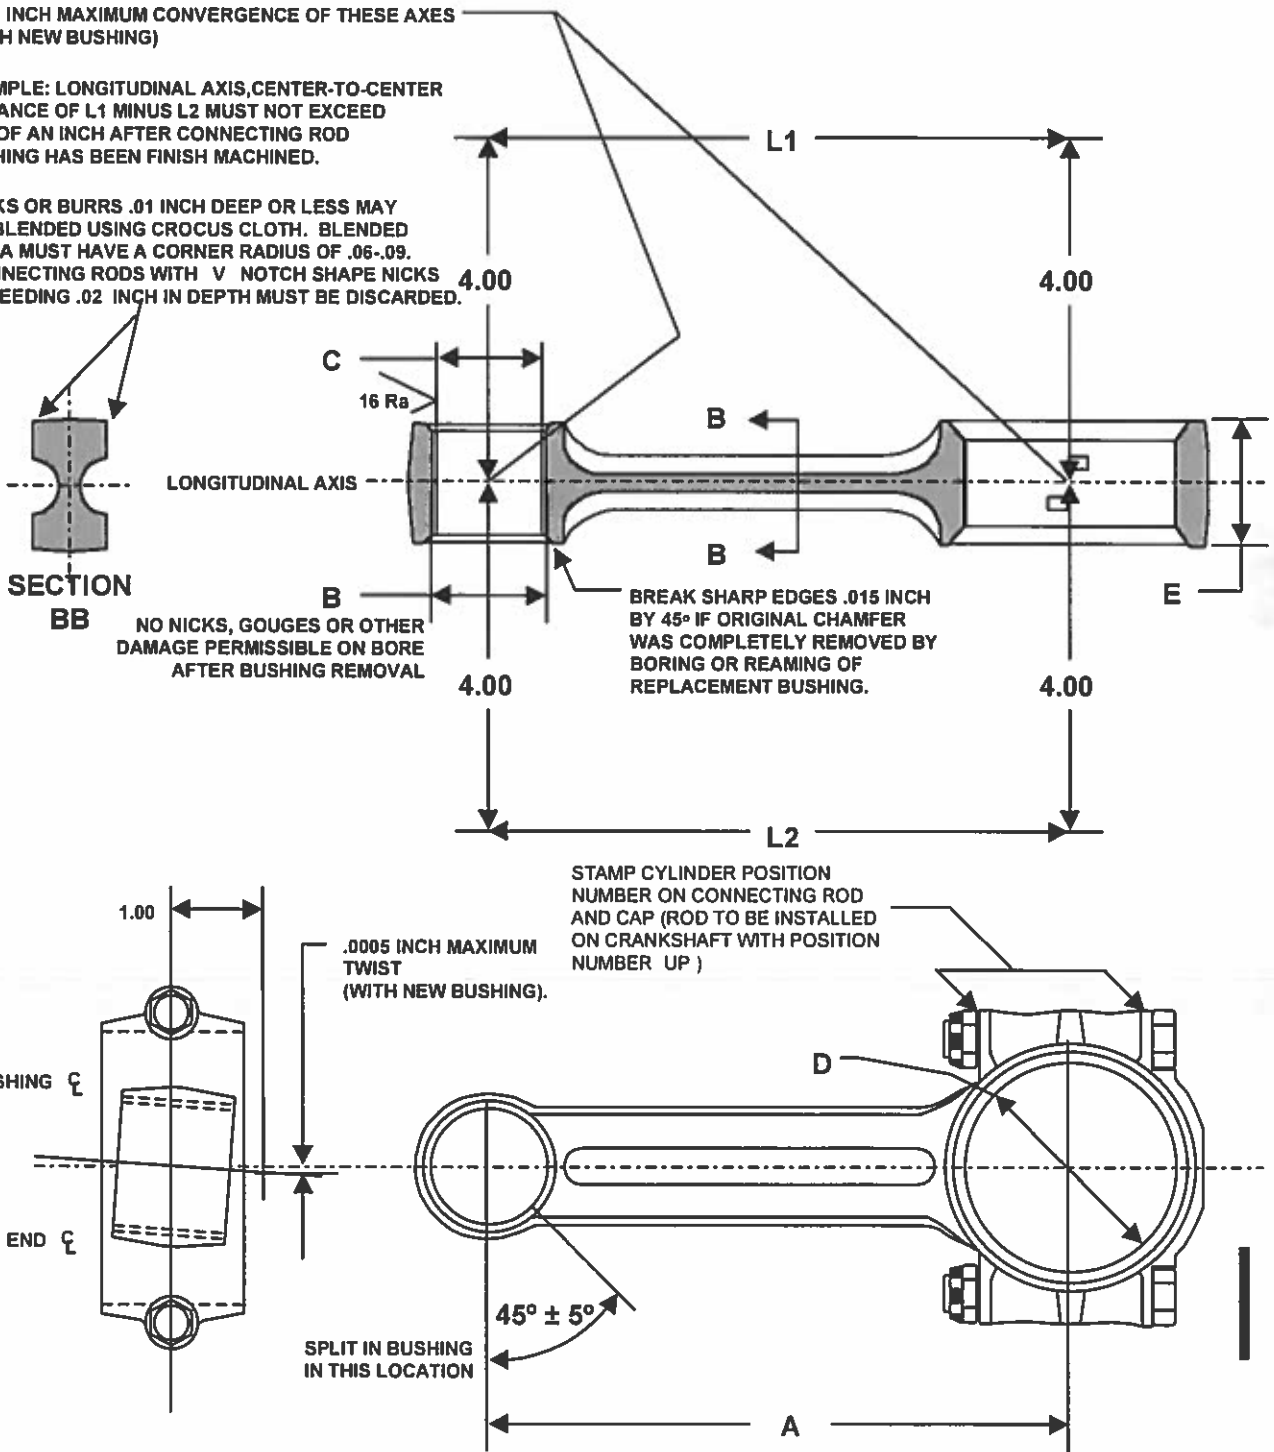

FIGURE 7. CONNECTING ROD AND BUSHING DIMENSIONS
Using precision measuring equipment, such as dial bore gauge or air gauge, verify that the connecting rod meets the dimensional specifications provided in Table 5. Reference Figure 7. Measure D diameter 15 to 30 degrees either side of connecting rod split line and 90 from the first measurement. Difference between the two measurements must not exceed .0015. Connecting rods and caps not meeting these specifications must be scrapped.
6. Verify the piston pin bushing split is correctly positioned. Reference Figure 7.
Use flat feeler stock to detect clearance between the machined steel blocks and the pin end arbor. Refer to Figure 7 for specified limits. To check connecting rod alignment, rotate the pin end of the connecting rod to a vertical position with the arbor resting against a positive stop. Using a dial indicator mounted on a vertical stand resting on the surface plate, measure the vertical distance of the pin end arbor from the surface plate at points equal distance from the centerline of the connecting rod. Refer to Figure 7 for the specified limits. **Connecting rods exceeding the limits specified in Figure 7 must have the piston pin bushing replaced and reamed or the connecting rod must be scrapped.**